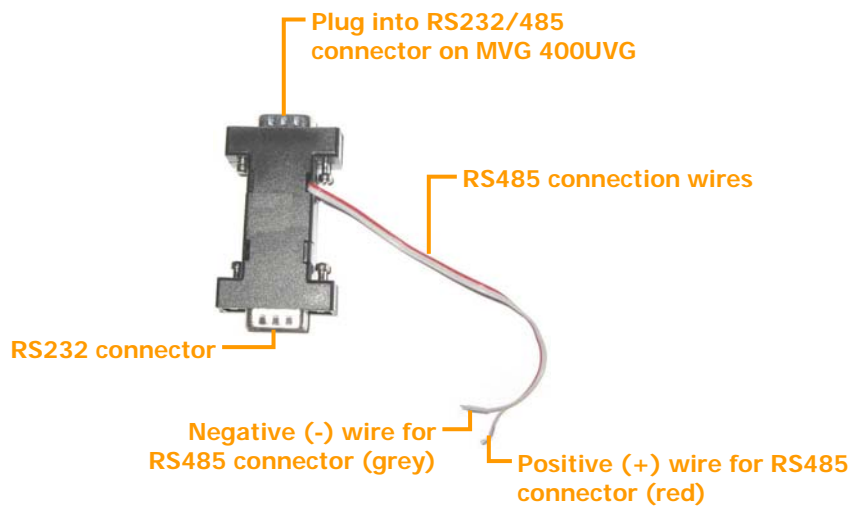

Figure 3: RS232/485 adapter
1. Use a wire connector to connect the wires to the RS485 connection wires of the adapter. Be sure to match the positive (+) wire of the controller cable to the positive (+ red) wire of the adapter, and the negative (-) wire of the controller cable to the negative (- grey) wire of the adapter (see figure 3).